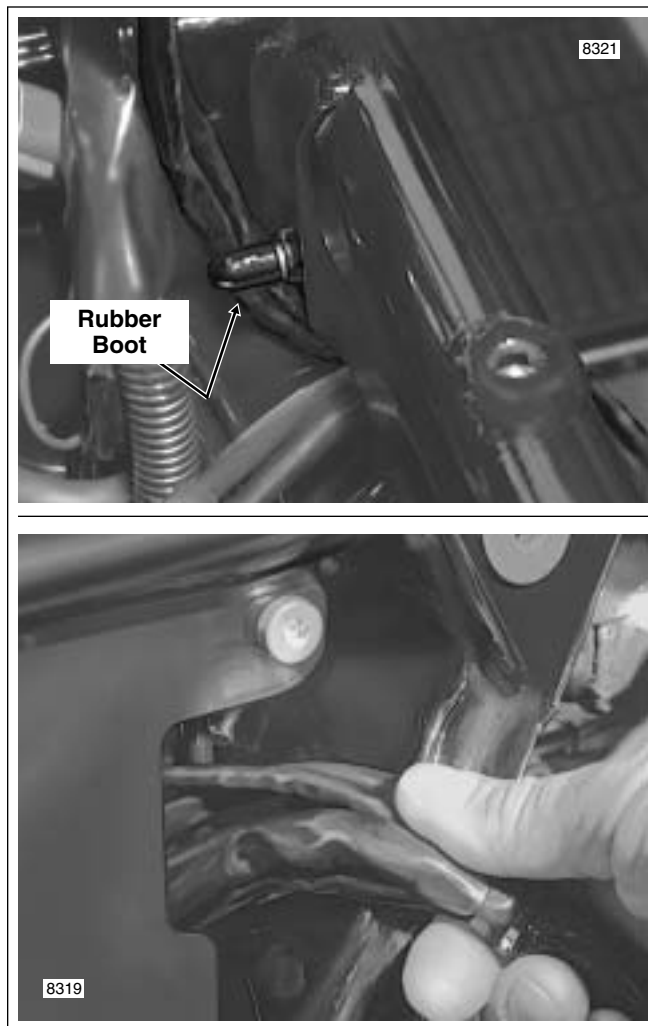

Figure 8-162. Remove Main Harness From Vehicle
Damage to wires can result in electrical problems. Be sure that rubber boot is present on threaded end of battery box TORX screw. Replace rubber boot if absent or damaged. See upper frame of Figure 8-162.
- g. Note that a section of the main harness conduit runs forward of the front battery box TORX screw. Pull conduit to the rear of the screw, and then feed ICM, data link, VSS, and security siren conduit and connectors through opening into battery box. See upper and lower frames of Figure 8-162.
ECM, fuse block, data link, VSS, and security siren conduit and connectors through opening into battery box. See upper and lower frames of Figure 8-162.
30. Carefully pull voltage regulator, CKP sensor, oil pressure switch/sender, rear brake light switch, starter solenoid, and neutral switch conduit and connectors rearward and then feed up through opening at front of battery tray into battery box. See lower frame of Figure 8-162.